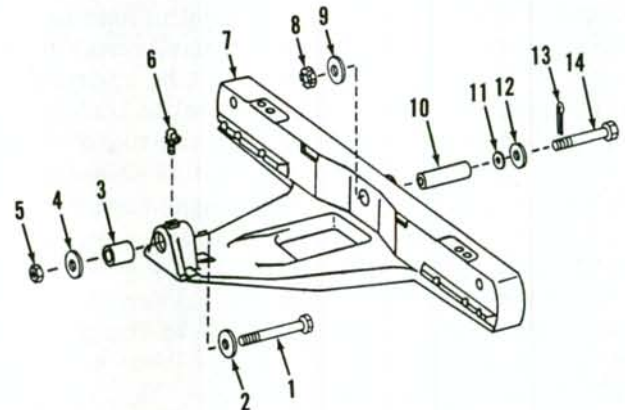

Fig. 4—Front axle main member used on two-wheel drive models. Refer to Fig. 2 for axle extensions.
**4. REMOVE AND REINSTALL.** To remove front axle main member (7—Fig. 4), first attach medium-duty front split stand JT05724 to tractor side rails. Attach a dial indicator base to front axle support and position indicator probe on bottom of pivot bolt washer (12). Set indicator on zero. Use split stand to raise front wheels off the floor. Read indicator to determine amount of pivot wear. If wear exceeds 0.080 inch (2.0 mm), pivot bushings and pivot pins should be renewed.
If so equipped, remove front weights. Place a floor jack under axle main member. Remove nuts (5 and 8—Fig. 4) and washers (4 and 9). Remove pivot bolt (1) and washer (2). Remove pivot bolt (14), washer (12) and shims (11). Move axle rearward to clear pivot pins, then lower axle from tractor.